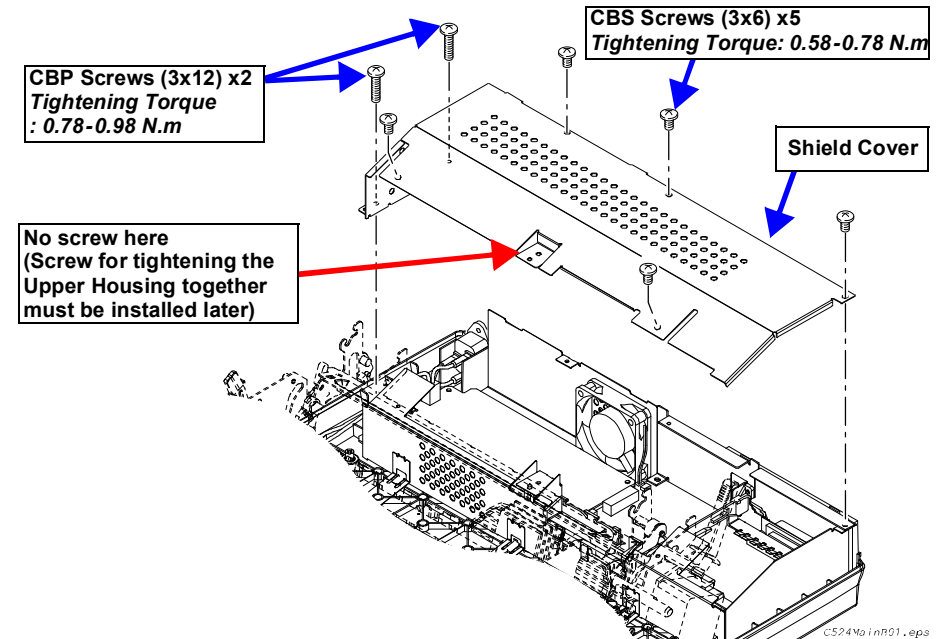

Figure 4-8. C524MAIN Board Removal 1
3. Remove 5 CBS (M3x6) screws and 2 CBP (M3x12) screws securing the shield cover to the Printer Mechanism and lower housing. Then remove the shield cover. (See Figure 4-8)
3. Remove the shield cover. (See Figure 4-8)